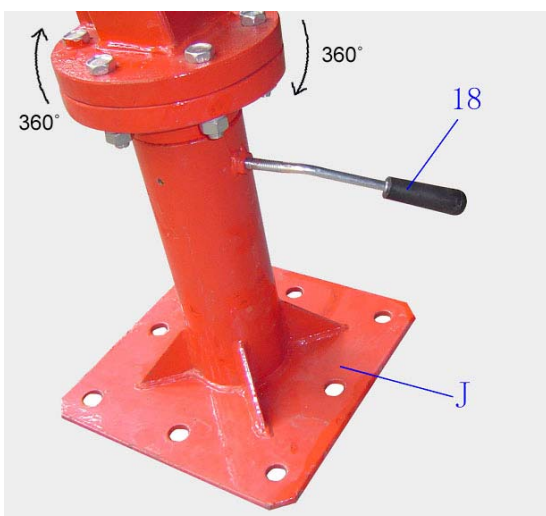

Fig. 9
Attach the Wheel Binding Bolt (18) to the Base (Fig. 9).